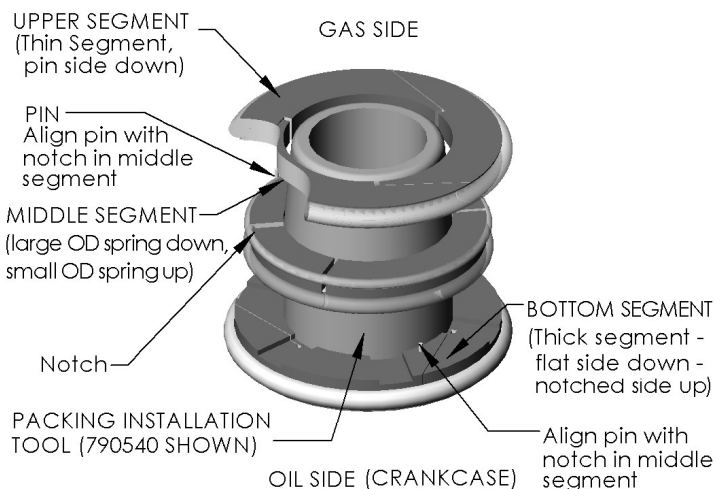

Figure 17b – S3R Oil Seal Orientation
- Install the S3R seal in the seal cup as shown in figure 17a. Place the S3R seal on the packing installation tool in the order shown in figure 17b, with the upper segment at the tapered end of the installation tool. Insert the installation tool, with the S3R seal, into the seal cup, with the tapered end toward the packing rings. Place seal cup cover on seal cup and secure with two capscrews.